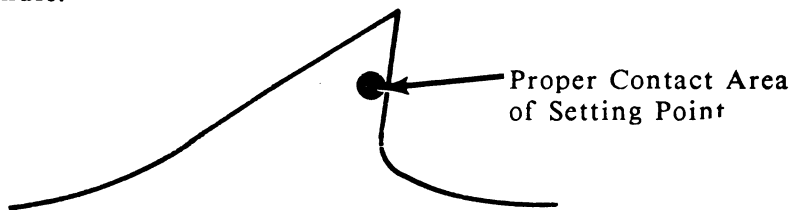

FIGURE 10
2. Adjust the blade rest screws so the setting point will contact the proper point on the tooth (See Figure 10). As tooth height varies due to "gumming out" of the gullet during sharpening, the rest screws will need to be adjusted to ensure the setting point contacts the tooth at the midpoint of its height. Slide the blade to the left or right so the setting point contacts the tooth as close to the front edge of the face as possible. Lock the blade in position with the clamp handle.